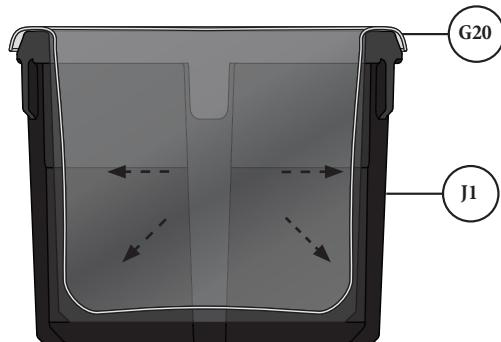

FIG. 29
- 29** Place a Liner Bag (G21) inside the Drum (J1). Take care to ensure that the bag is fully expanded to the inside of the Drum (J1) and that the upper edge of the Liner Bag is folded out and over the lip of the Drum [FIG. 29].